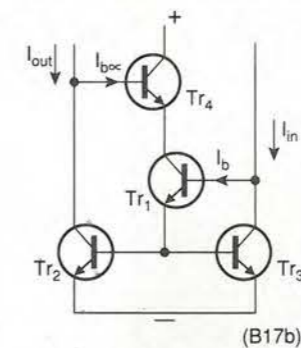
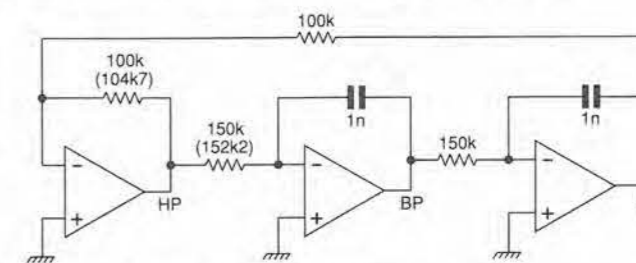

Fig. 2. Further base current added to output restores accuracy while retaining improved bandwidth.
Fig. 1. Simple low distortion sine wave oscillator
To regain accuracy, the circuit of Fig. 2
As an exercise in making a silk purse out of a sow's ear, that standard low-cost standby of FET input op-amps, the TL084 was selected. I started with the circuit of Fig. 1, which, apart from the frequency, is the same basic circuit as in reference 5. This circuit produces an output at approximately 1kHz, the peak to peak amplitude just reaching to the supply rails.
Output spectrum is shown in the upper trace of Fig. 2. This shows the measured at the output of the second integrator, deliberately plotted with rather a wide IF bandwidth. The
Fig. 2. Upper trace, output of the circuit of Fig. 1. Span 0-5kHz, 100Hz resolution (IF) bandwidth, video (post detection) filter off. Lower trace, as above, but with component values in brackets, resolution bandwidth 30Hz.